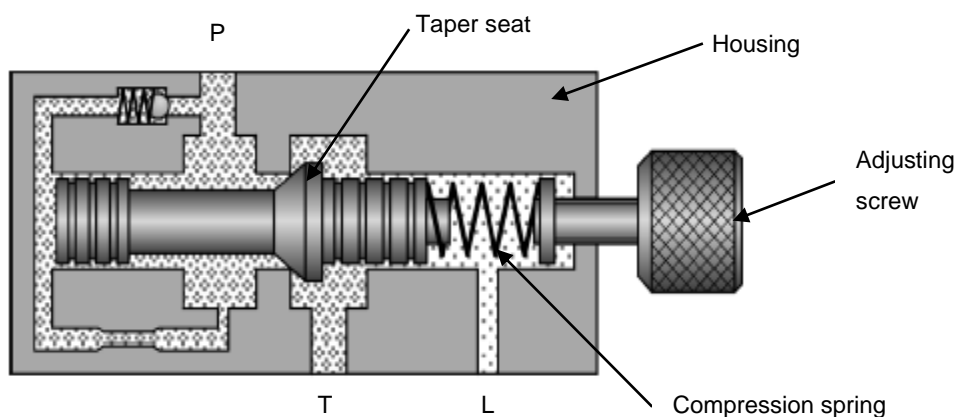

FIG 1.
- a compression spring presses a sealing element onto the input port, (Fig 1) or